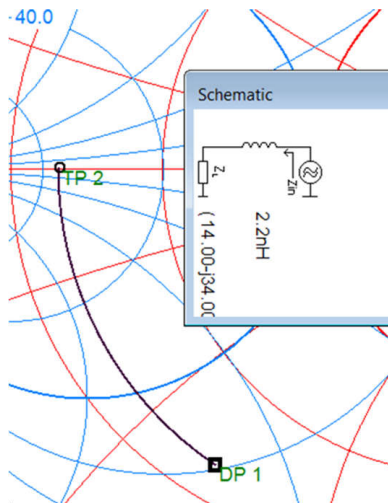

Figure 5-4. Matching the High-Band With an Ideal Value of L_{HIGH} : 2.2nH and C_{HIGH} : NC
- L_{HIGH} : 2.2nH and C_{HIGH} : NC; see Figure 5-4